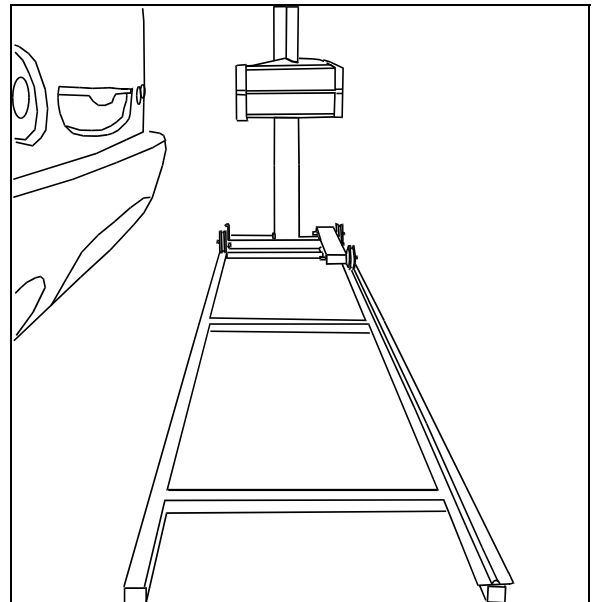

FIGURE 30: INSTALLATION OF HOOPY 100 ALIGNER 06496
5. Install "Hoopy 100" Aligner onto support rail (Fig. 30).
3. Install “Hoopy 100” Aligner onto support rail (Fig. 30). Turn aligner ON.